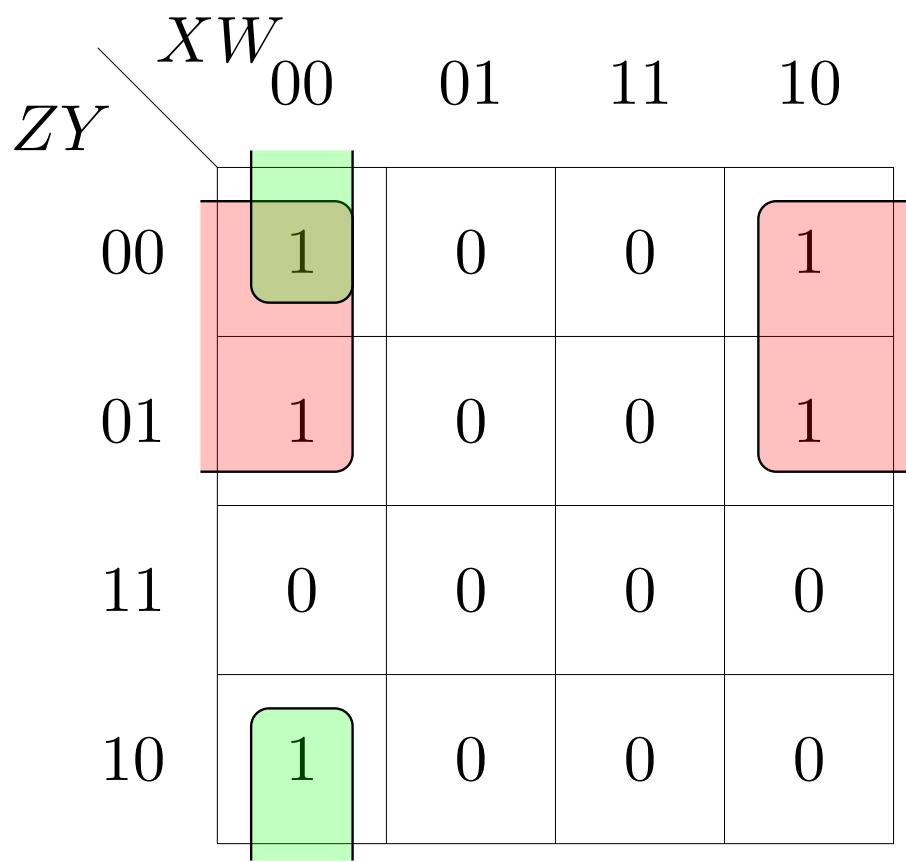
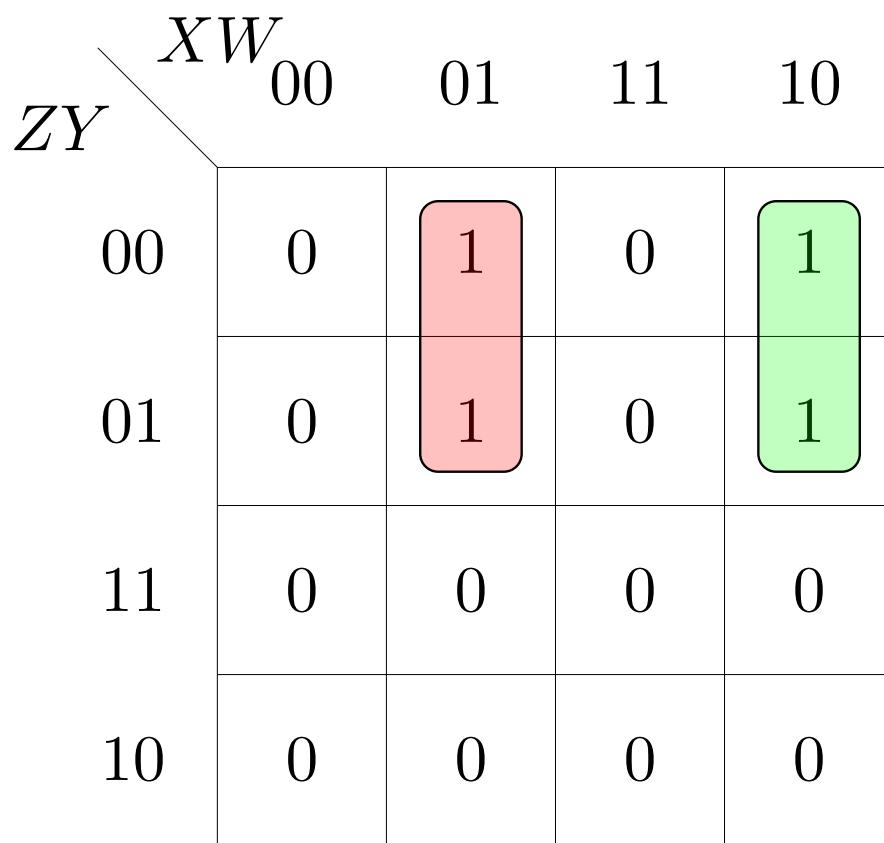

Figure 4.1: K-map for  $A$
Figure 4.2: K-map for  $B$
1. K-Map for  $A$ : The expression in (4.1) can be minimized using the K-map in Fig 4.1
In Fig 4.1, the implicants in boxes 0,2,4,6 result in  $W'Z'$  The implicants in boxes 0,8 result in  $W'X'Y'$  Thus, after minimization using Fig 4.2, (4.1) can be expressed as
using Fig 4.2